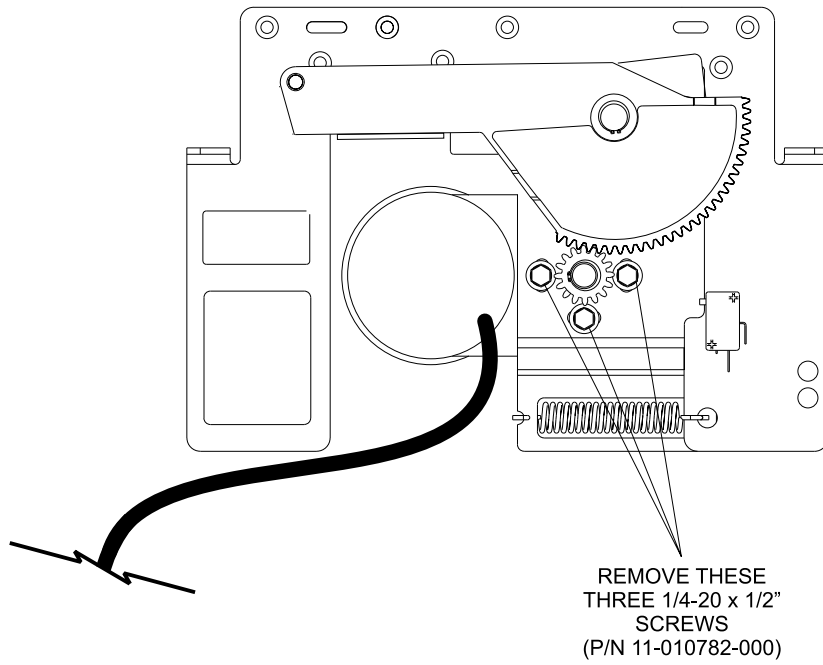

Figure 4
5. With the motor drive arm in the full down position, remove and save three of the four 1/4-20 x 1/2" screws (P/N 11-010782-001) securing the motor. Refer to *Figure 4*.